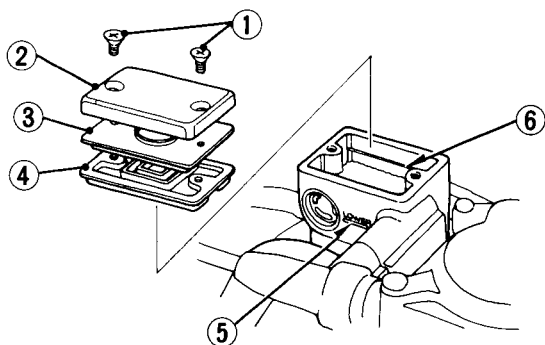

Fig. 4-24
Brake fluid must be added to the reservoir (Fig. 4-24) whenever the fluid level approaches the lower level mark (5). Use only DOT 3 or 4 brake fluid.